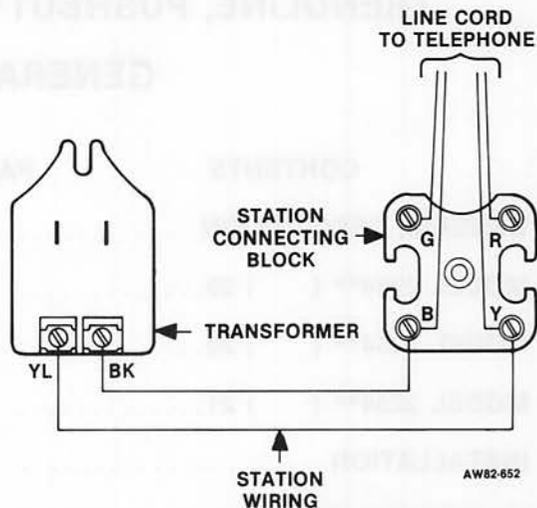

Figure 2: Installation Of Power Transformer
2.02 A lamp may be added to Trendline telephones for illuminating the dial and number card. The lamp must be ordered separately. Installation consists of inserting the lamp into the lamp housing located in the handset under the number card retainer. A power transformer must be ordered and installed at the station connecting block as shown in Figure 2. Refer to Section 50-254-104 for lamp and power transformer ordering information.